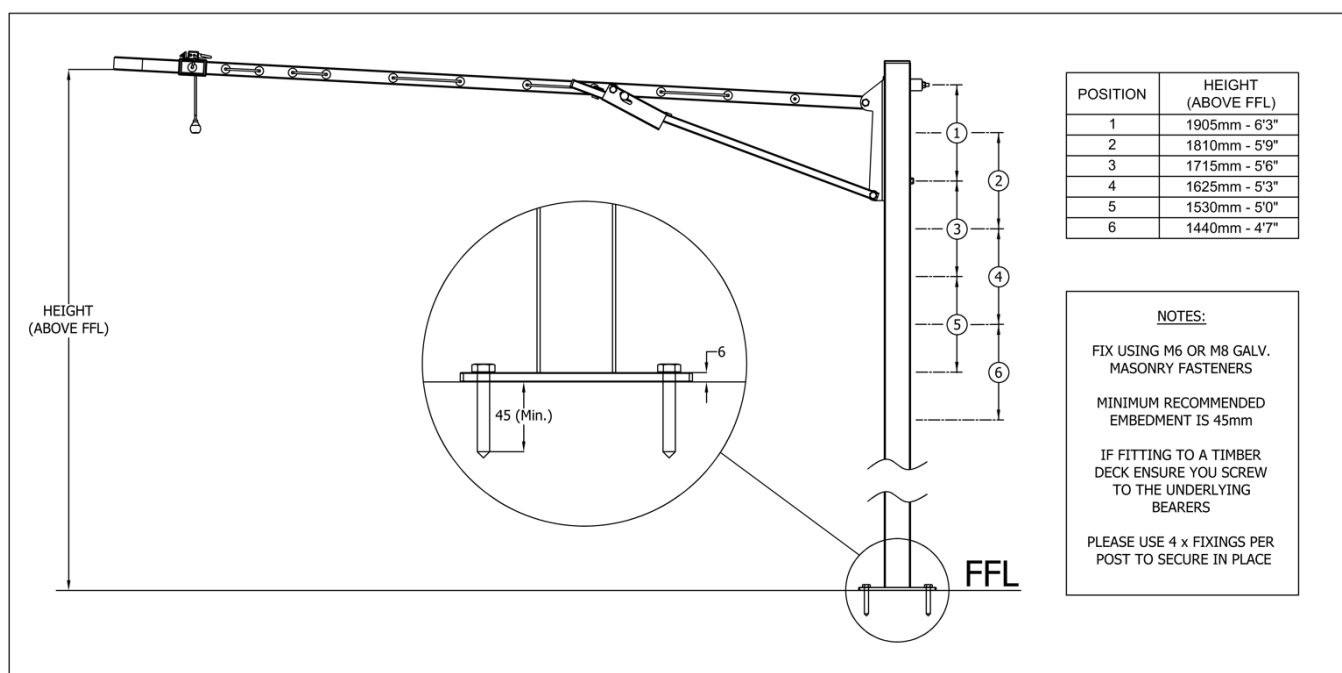

Fig 9. Installation of Plated Post GMK.
- Install the plated GMK as per the below image (Fig 9) at 1,300mm centres.